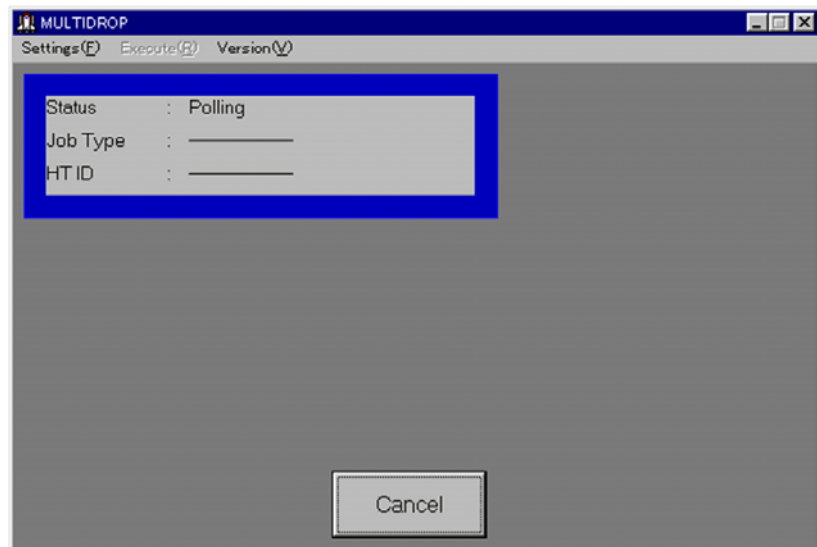

Fig. 2.6
4. Select **Execute(R)** in Fig. 2.6 to make the Multi-drop utility enter to the 'Polling' state.